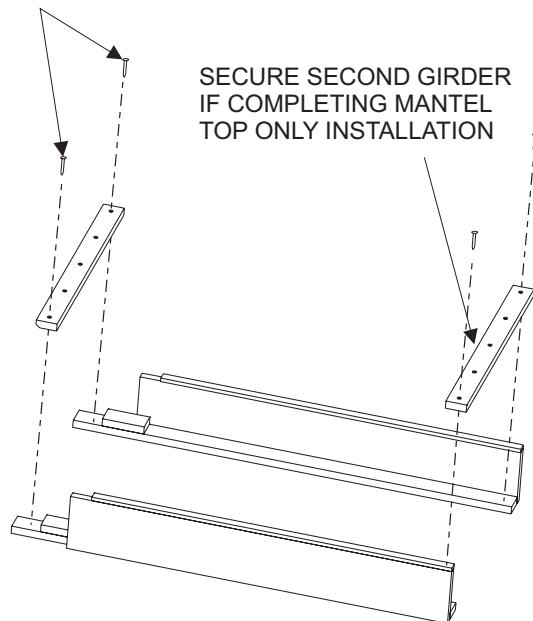

Figure 2
3. Use a horizontal girder to ensure exact spacing between the right and left mantel side assemblies. Place a horizontal girder flush with the outside edge of the wall cleats and align next to braces as shown in figure 2. **NOTE:** For top installation only, place the second horizontal girder flush with the bottom edges of side panels and wall cleats.